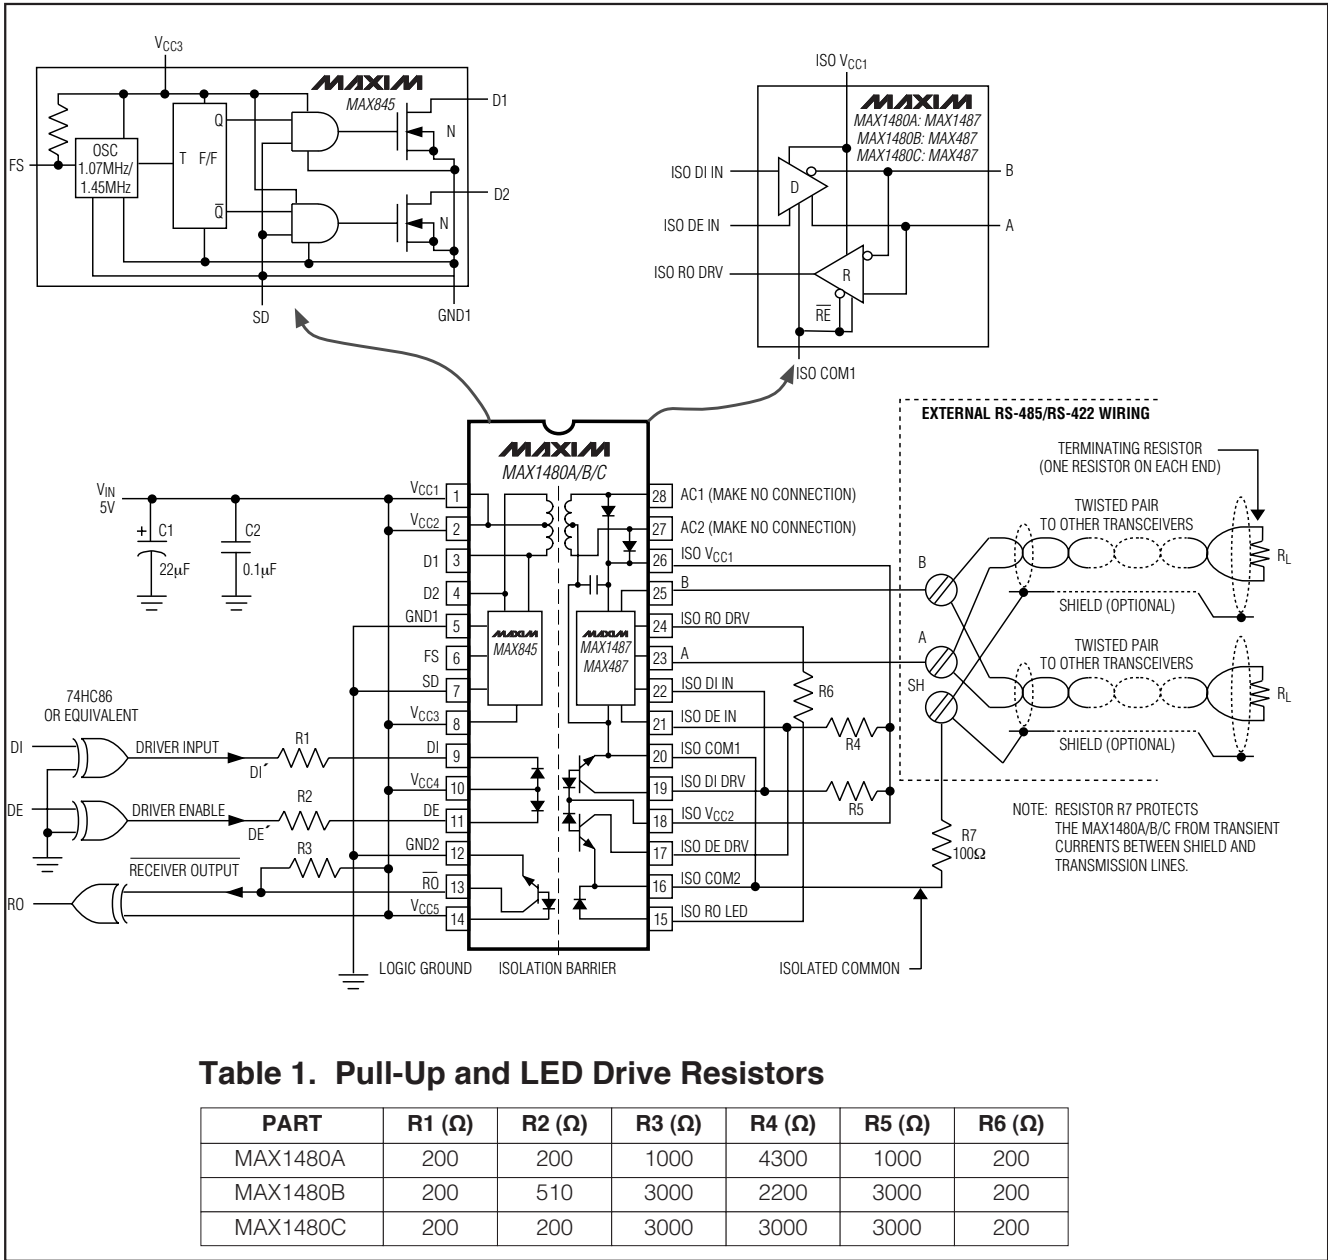
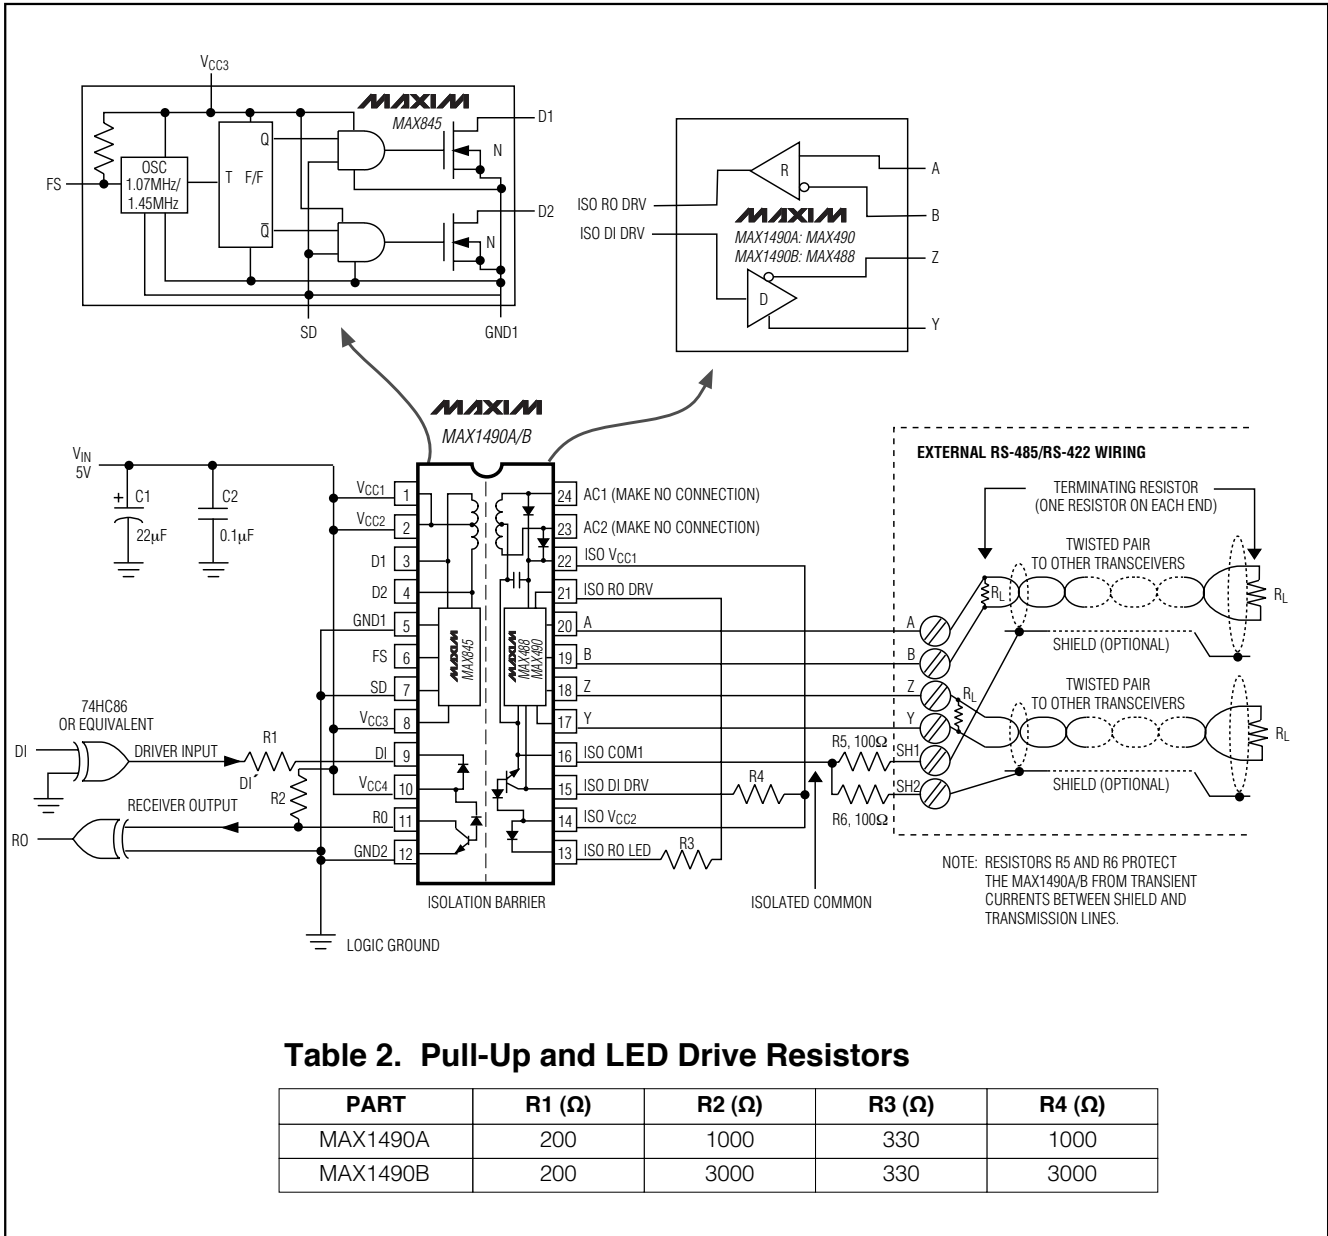

Figure 1. MAX1480A/MAX1480B/MAX1480C Detailed Block Diagram and Typical Application Circuit
Figure 2. MAX1490A/MAX1490B Detailed Block Diagram and Typical Application Circuit
Note 2: For DE⁺ and DI⁺ pin descriptions, see *Detailed Block Diagram and Typical Application Circuit* (Figure 1 for MAX1480A/MAX1480B/MAX1480C, Figure 2 for MAX1490A/MAX1490B).
Note: For DE^ˆ and DI^ˆ pin descriptions, see *Detailed Block Diagram and Typical Application Circuit* (Figure 1 for MAX1480A/B/C, Figure 2 for MAX1490A/B).
The MAX1480A/MAX1480B/MAX1480C/MAX1490A/MAX1490B are complete, electrically isolated, RS-485/RS-422 data-communications interface solutions. Transceivers, optocouplers, a power driver, and a transformer in one standard 28-pin DIP package (24-pin for the MAX1490A/B) provide a complete interface. Signals and power are internally transported across the isolation barrier (Figures 1, 2). Power is transferred from the logic side (nonisolated side) to the isolated side of the barrier through a center-tapped transformer. Signals cross the barrier through high-speed optocouplers. A single +5V supply on the logic side powers both sides of the interface. The MAX1480A/B/C offer half-duplex communications while the MAX1490A/B feature full-duplex communication. The functional input/output relationships are shown in Tables 3–6.
* For DE[′] and DI[′] pin descriptions, see *Detailed Block Diagram and Typical Application Circuit* (Figure 1 for MAX1480A/B/C, Figure 2 for MAX1490A/B).
The MAX1480A/MAX1480B/MAX1480C/MAX1490A/MAX1490B are specified and characterized using the resistor values shown in Table 1 of Figure 1 and Table 2 of Figure 2. Altering the recommended values can degrade performance.
The isolated common may be completely floating with respect to the logic ground and the effective network ground. The receiver input resistors will cause the isolated common voltage to go to the mean voltage of the receiver inputs. If using shielded cable, connect the isolated common to the shield through a 100Ω resistor. In the case of the MAX1490, each shield should have its own 100Ω resistor (Figures 1, 2, 13, and 14).